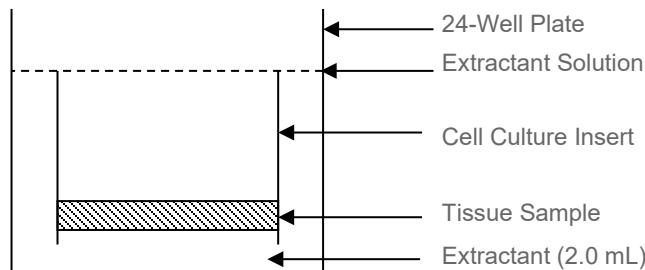

Figure 3: Extraction Configuration (room temperature in dark)
b) **Add extractant:** Immerse the cell culture inserts with 2.0 mL of the extractant solution per well to completely cover the cell culture insert. **See Figure 3.** Cover the extraction plate to reduce evaporation of extractant. Note: If the test article is colored and does not completely rinse off, pipet 1.0 mL of extractant into each well